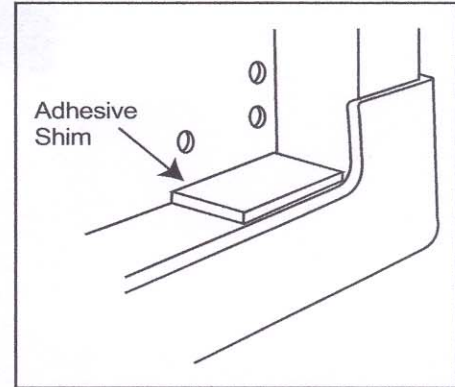

Figure 1. Shim placement (on both sides of cabinet)
- b. Install the shim adhesive side down as shown in Figure 1.